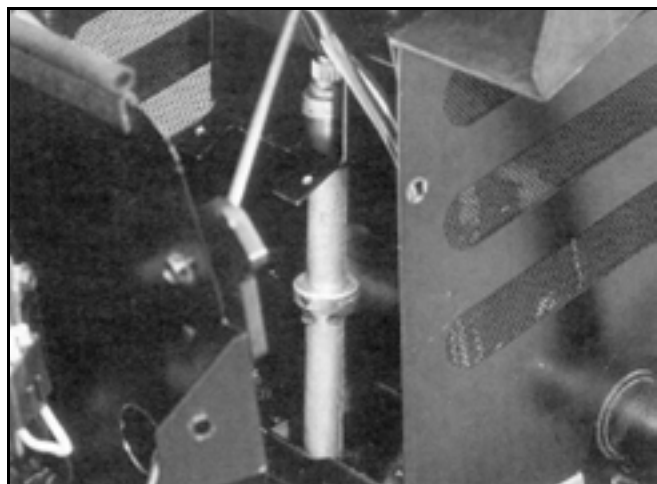

Figure 32
10. Remove the shims from the top of the lower bushing and set aside for installation process (Figure 32). **Important:** Check the bushing, shaft, and gears for wear and replace with new parts if necessary. Refer to "Steering Specifications" on page 2 - 14.